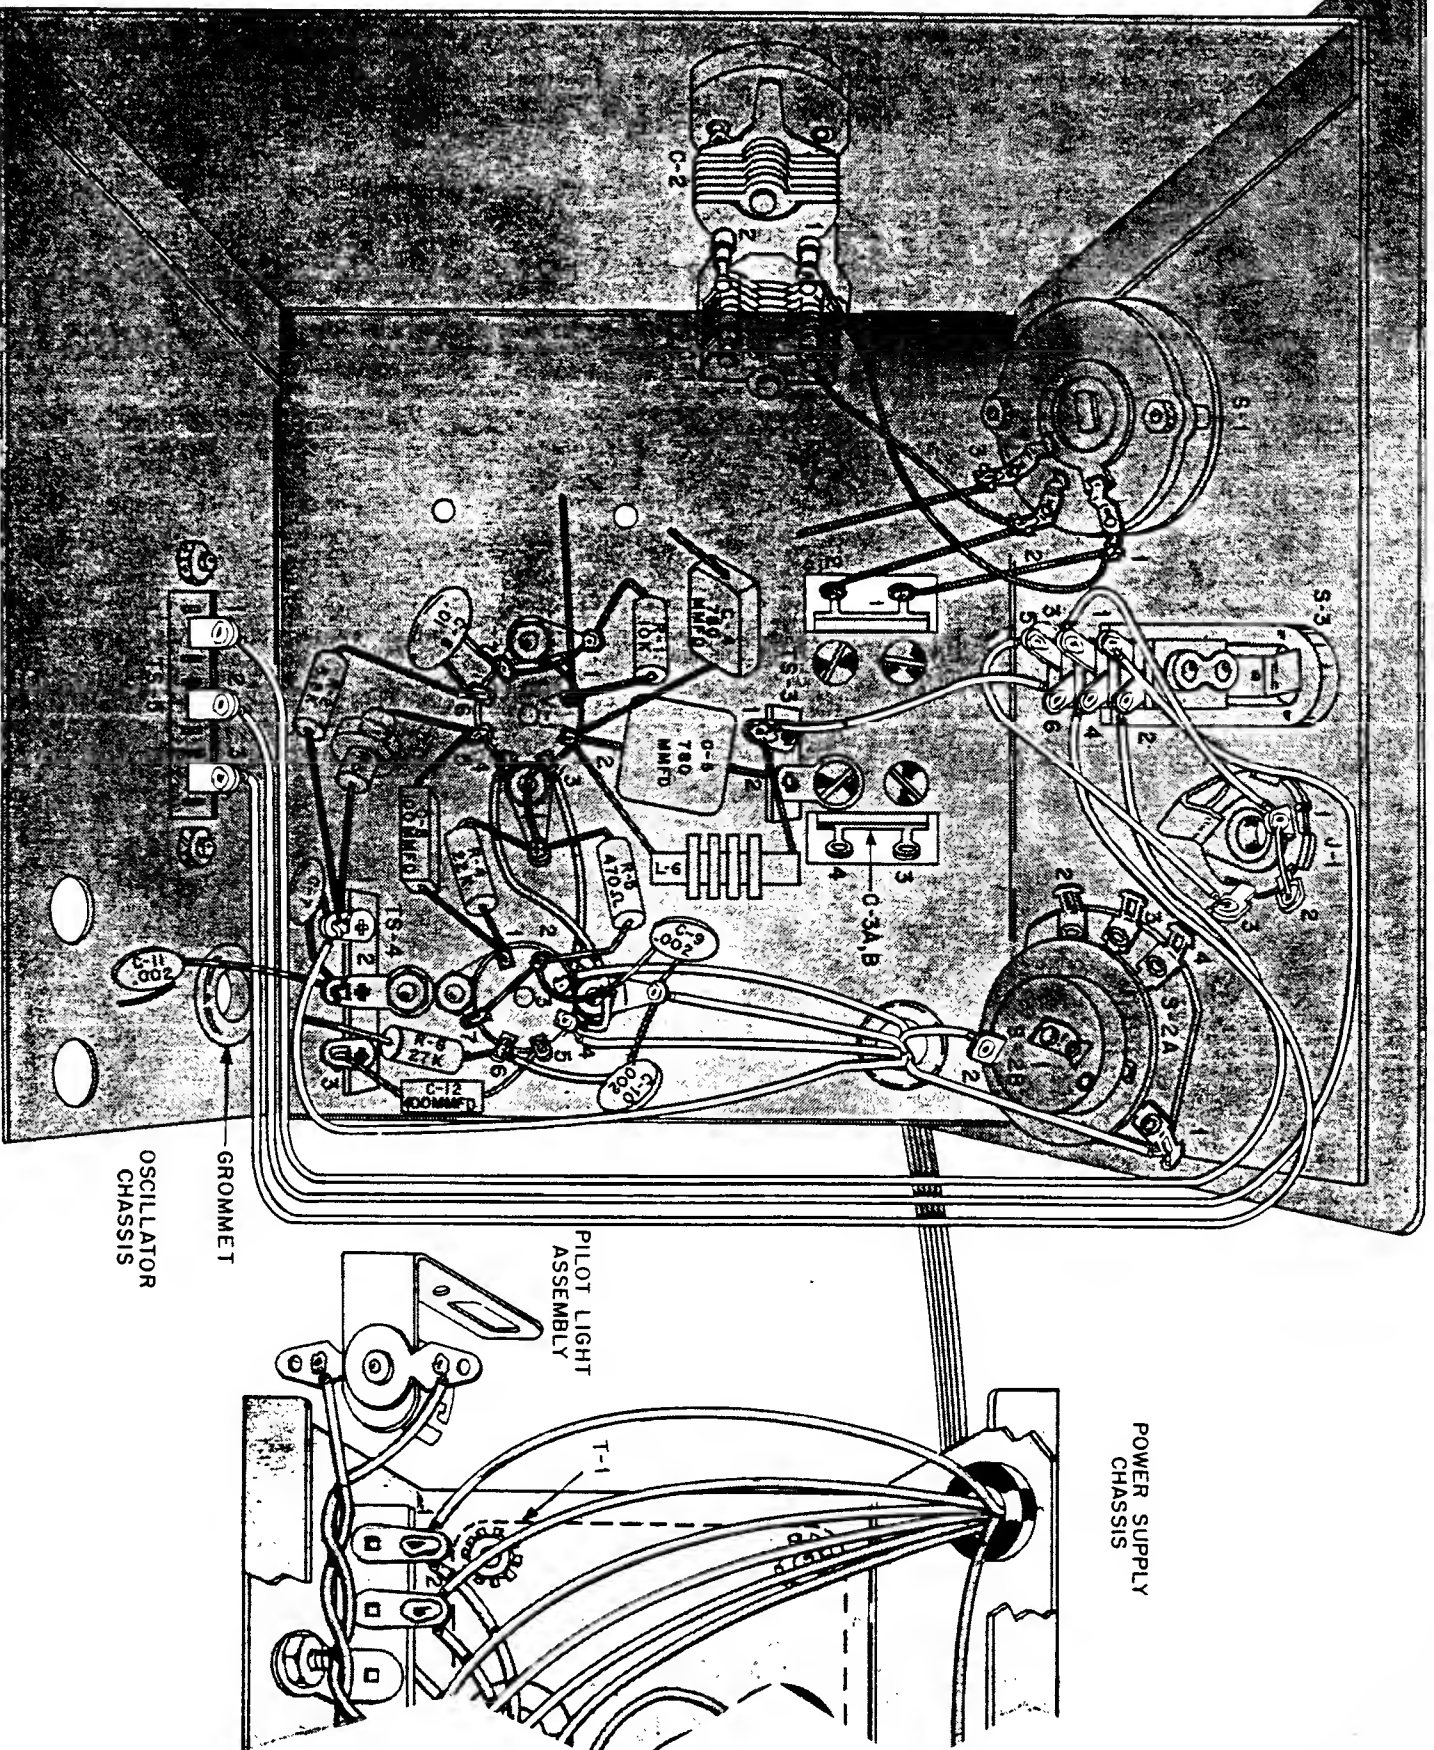

FIGURE 10. SECOND WIRING VIEW, OSCILLATOR CHASSIS AND WIRING
SEE FIGURE 10.
- () Solder one end of a white-orange wire to terminal 3 of TS-5. Bring it over to the edge of the open side of the chassis, along the side of the chassis to the front, and across to S-3, as shown in Figure 10. Solder the other end to terminal 4 of S-3.
- () Check all of the work against Figure 10.